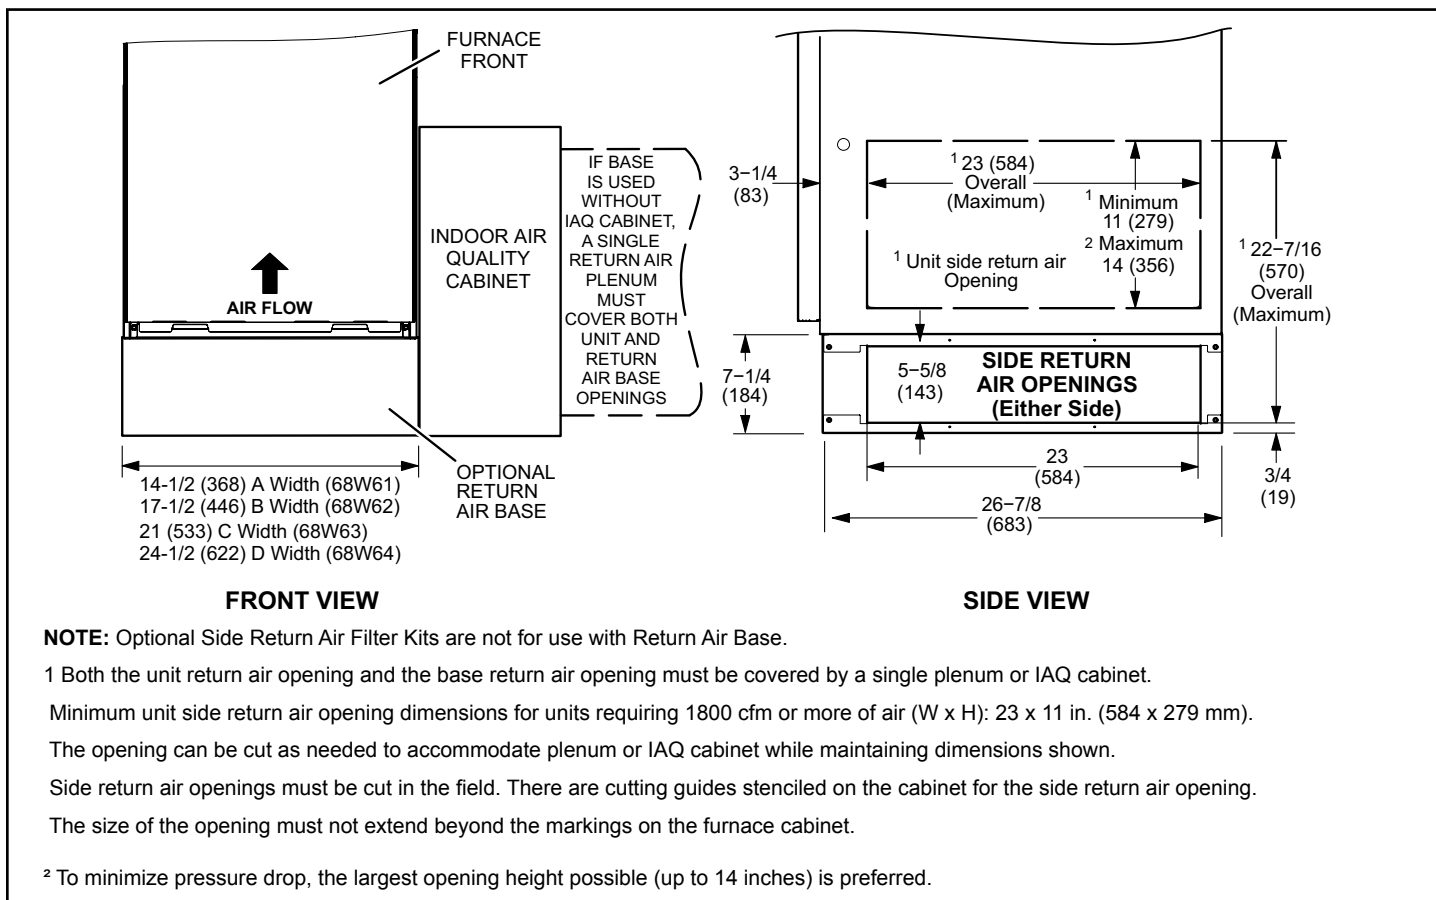

Figure 12. Optional Return Air Base (Upflow Applications Only - For use with A, B, C and D cabinets)
2. Single side return air with optional return airbase. See Figure 12.